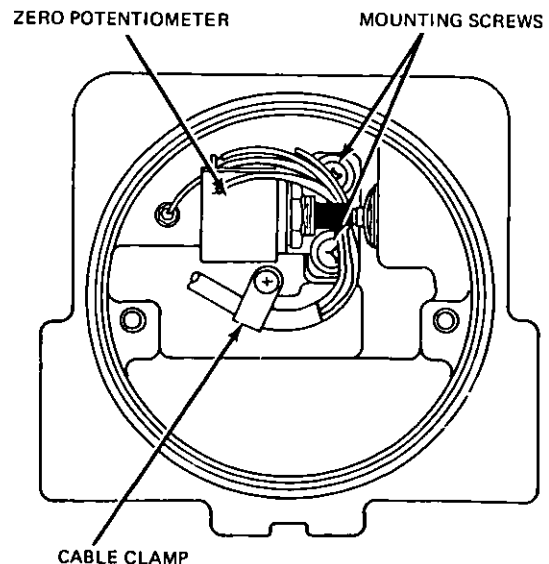

Figure 28.
2. Remove the two mounting screws holding the ZERO potentiometer bracket to the casting (see Figure 28).